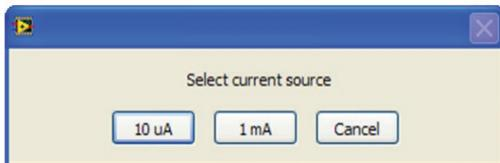

Figure 6.2
3. Click on the “Current Source” button of the Utility Software Calibration window. This opens up a warning window. Click on “Proceed” to continue. The next screen is shown in figure 6.2.
3. Click on the “Current Source” button of the GUI Calibration window. This opens up a warning window. Click “Proceed” to continue. The next screen is shown in Figure 6.2.